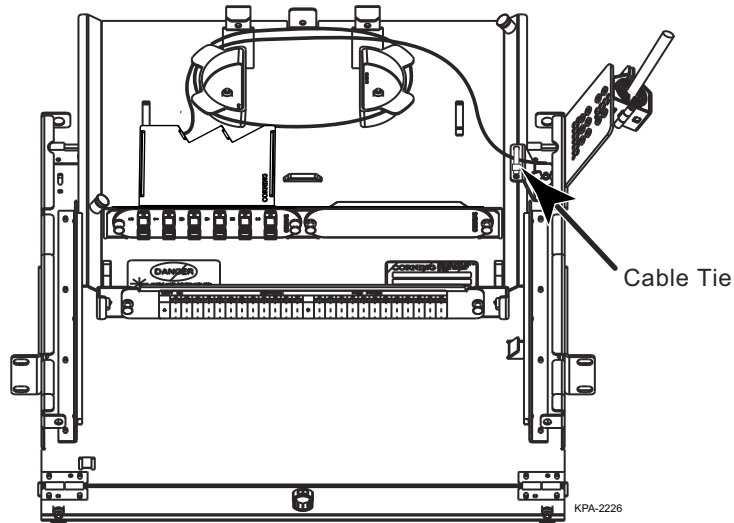

Figure 9 — Fiber Routing to External Splice Housing
- Step 3:** If you intend to splice using an external splice housing, route slack around the radius control guides and through the rear entry openings to the applicable splice housing above or below the PCH-01U unit (Figure 9).